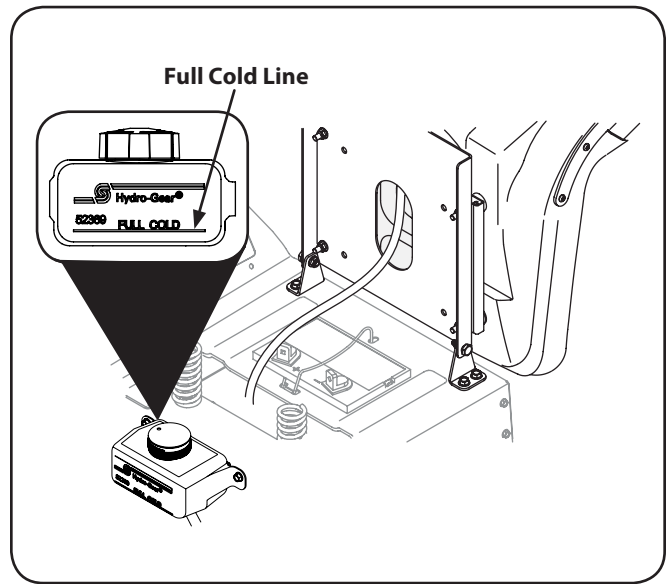

Figure 6-1
1. Pivot the operator's seat forward and clean the reservoir cap and the area around the cap to prevent debris from contaminating the transmission oil. See Fig. 6-1.
2. Turn the reservoir cap counterclockwise to re-move, then check the oil level in the reservoir. Oil should be visible at the bottom of the cup, but the oil level must NOT be above the "FULL COLD" line. See Fig. 6-1. **DO NOT FILL THE RESERVOIR.**